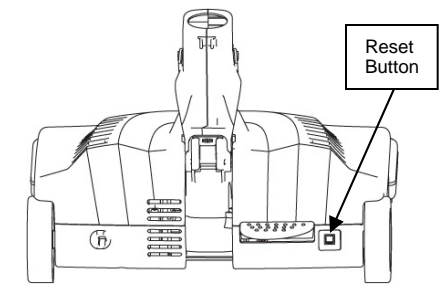

Fig. 23
8. Press the reset button located next to the handle release. This will reset the circuit breaker. (Fig. 23)